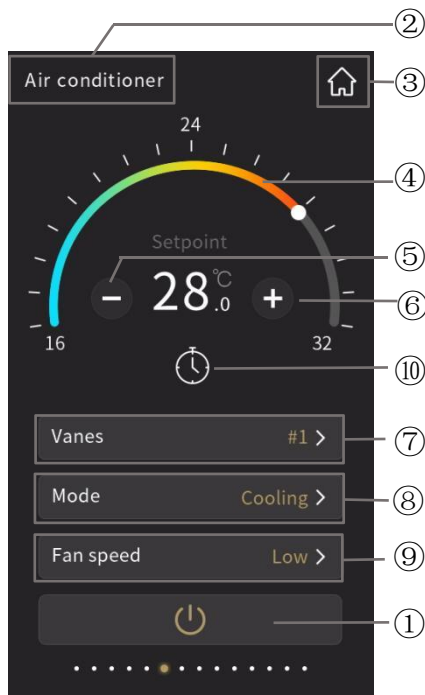
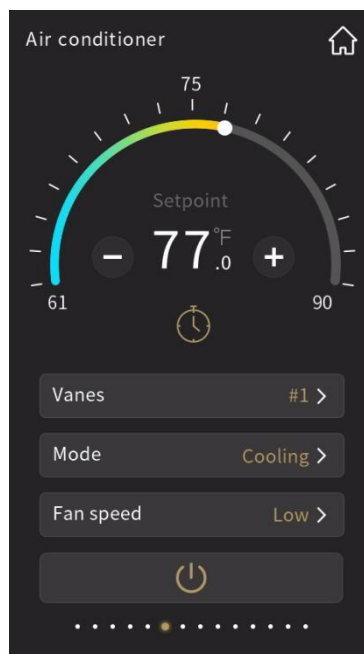
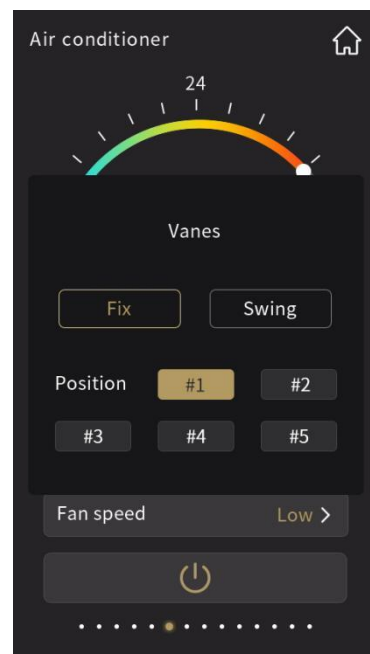

Fig.2.4.1
Fig.2.4.2
Fig.2.4.3
- ② This area displays the page description identification of Air-Conditioner control, user can define the description through ETS;
- ③ Return to Home page by touching this icon;
- ④ Adjust the setting temperature by sliding this ring slider;
- ⑤ The function of this icon is to decrease the temperature;
- ⑥ The function of this icon is to increase the temperature;
Adjusting the temperature by sliding the ring slider④ or touching the icon⑤ and icon⑥. For each touching of icon⑤ and icon⑥, the adjustment range is 1.0 degrees. When the setting temperature unit is set to degrees Celsius(°C), as shown in Fig.2.4.1, adjustment range of the setting temperature is 16~32°C by default; when the setting temperature unit is set to Fahrenheit(°F), the current temperature value will automatically convert to Fahrenheit value, as shown in Fig.2.4.2, adjustment range of the setting temperature is 61~90°F by default. The temperature adjustment range can be modified through parameter setting.
- ⑦ Enter to the vanes setting by touching this tile, and will pop up a sub-window shown as Fig.2.4.3;
Under fixed vanes position, select one of the 5 options (#1, #2, #3, #4, #5) for vanes position, for instance, select #1, interface as shown in Fig.2.4.3, then touch the area outside the sub-window to return the previous level function page, the position selected will be shown on the function page, as shown in Fig.2.4.1. For vanes swing, because vanes position change all the time, there would be no fixed position, only display character "Swing" on the interface.
Vanes swing function set to be disable or enable by parameter configuration. When disable, there will be no vanes fixed/swing item shown on the interface, as shown in Fig.2.4.1; when enable, vanes position can be adjusted.
⑩ Turn on timer function by touching this icon;
Icon^⑩ on indicates timer turn on; icon^⑩ off indicates timer turn off. Timer function can be enabled via the parameter configuration. When timer function is disabled, there would be no timer icon as shown as Fig.2.4.1 on the interface; when enabled, timer can be configured.